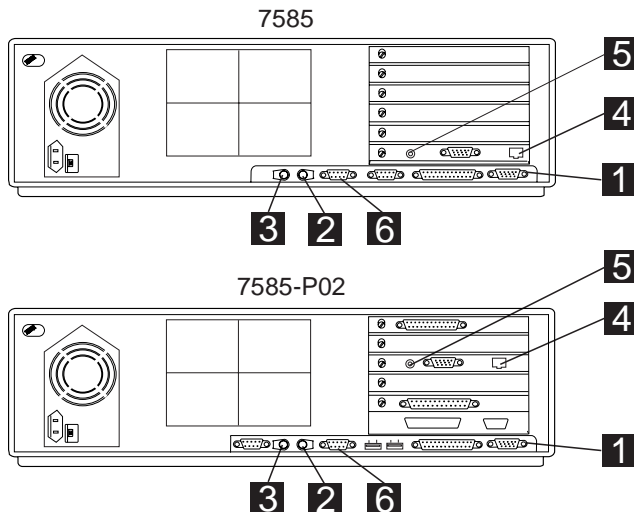

Figure 1-1. NAS, Slot Allocation
There are two types of NAS, **7585** and **7585-P02** (refer to Figure 1-1). In the following chapters, refer to this drawing to identify the proper cables connection.
4. ___ Plug the following cables **to the NAS** (refer to Figure 1-1):